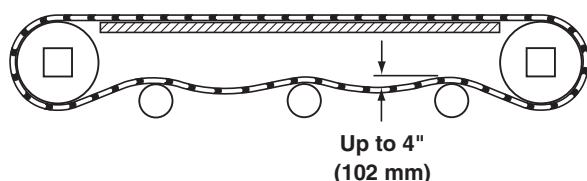

Figure 24
1. Check belt sag by measuring from the top of the return (Figure 24). Belt sag should not exceed 4" (102 mm). Follow steps 7 – 9 in the "Belt Installation" section on page 7 to remove slack from the belt.